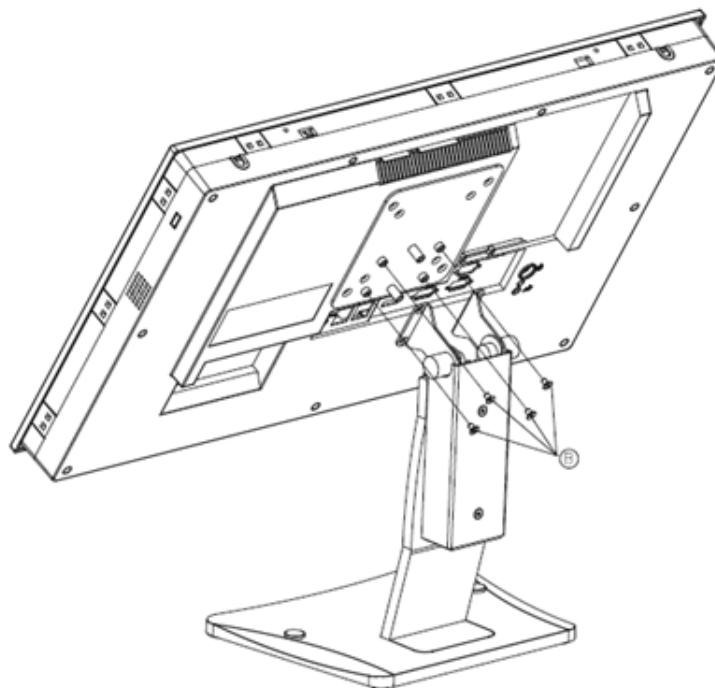

Figure 2.37 Securing the VESA mount bracket
4. Use one M4 x 5L screw to secure the stand mount hinge cover (Figure 2.37).